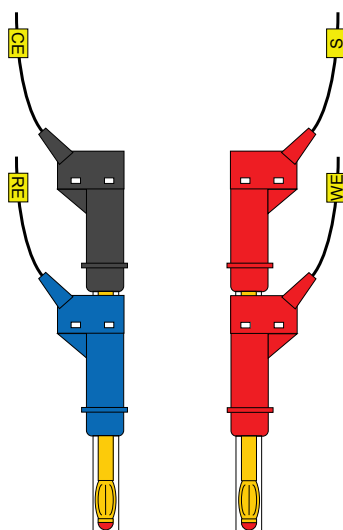

Figure 1.110 – Overview of the connection required for the determination of C2
2. Disconnect the Dummy cell and leave the leads open in the Faraday cage. CE and RE must be connected together as well as WE and S (as shown in Figure 1.110). Make sure RE/CE and WE/S are not connected together. Connect the ground lead from the PGSTAT to the Faraday cage.